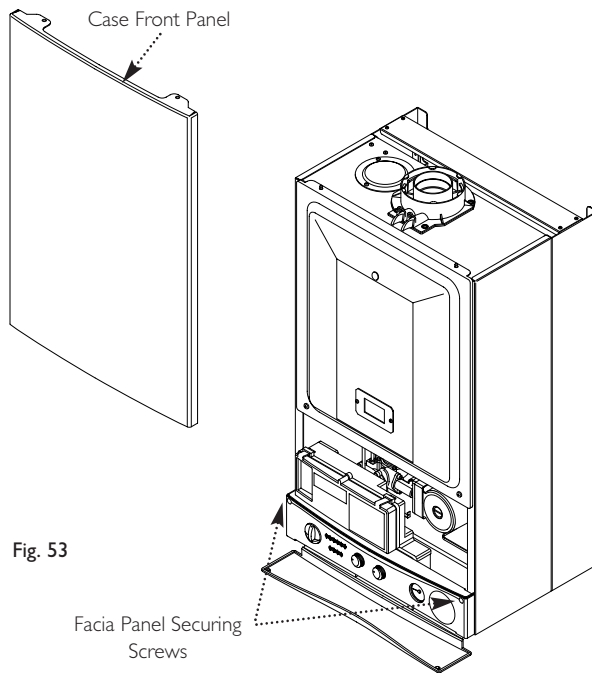

Fig. 53
5. Slacken the screws securing the fascia panel. Lift the outercase panel so that its securing tabs are clear of the fascia. Remove the panel (Fig. 53).